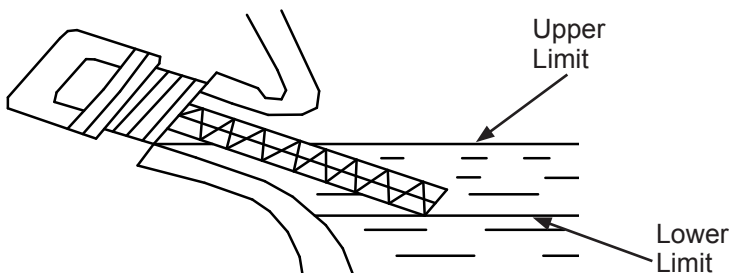

Fig. 3.1
2. Check the oil level by inserting the dipstick into the filler check without rotating. If the level is low, fill to the upper limit of the oil filler neck with the recommended oil. (Refer to Fig. 3.1)